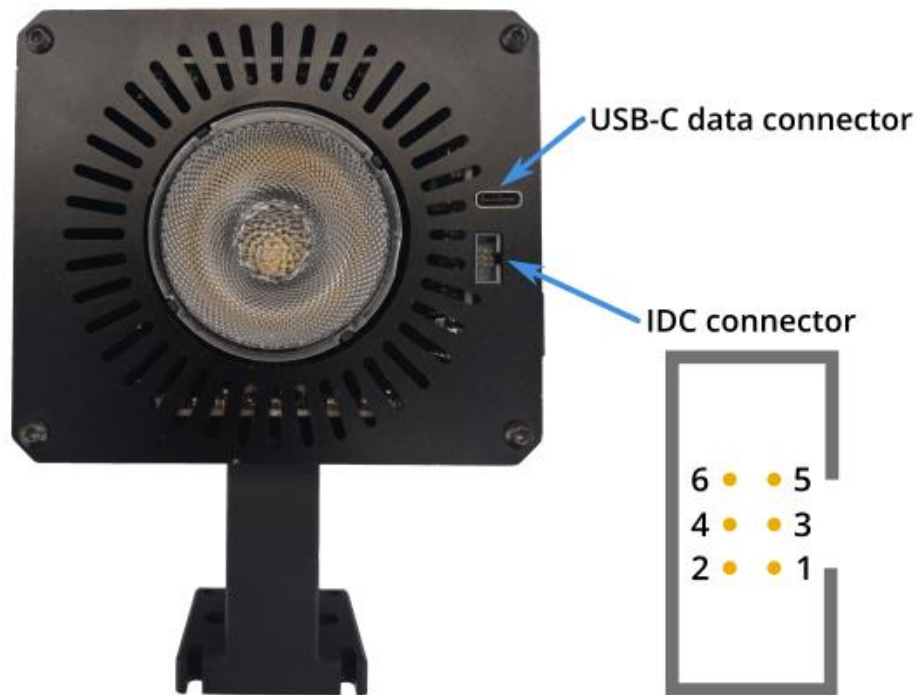

Figure 9.1. Connectivity ports of the solar simulator.
1. Plug the filter cable into the IDC connector (see **Figure 9.1**).
The Ossila Solar Simulator connects to a computer through a USB connection. The device has a USB-C port located on the underside of the lamp, as shown in **Figure 9.1**. A USB cable should be used to connect the solar simulator to the computer. Communication is only possible when the system is turned on.